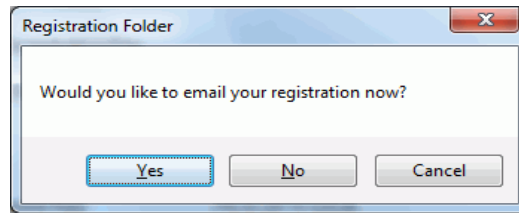

Figure 8 - Email Registration
3. Enter all required information, as marked by *, click  then Figure 6 appears click  and Figure 8 appears, if email access is detected.